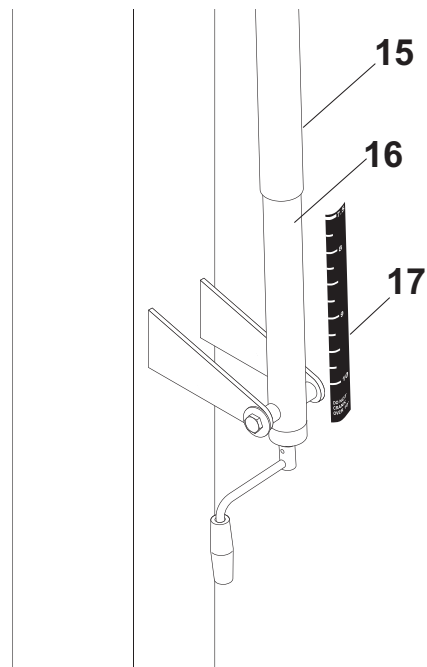

Figure 15
26. Adjust unit to 7-1/2 feet. Use a tape measure to measure from the top of the rim to the playing surface. Stick Height Decal (#17) to back of actuator (#16) with the "7.5" mark aligned with bottom of Actuator Sleeve (#15). See Figure 15.